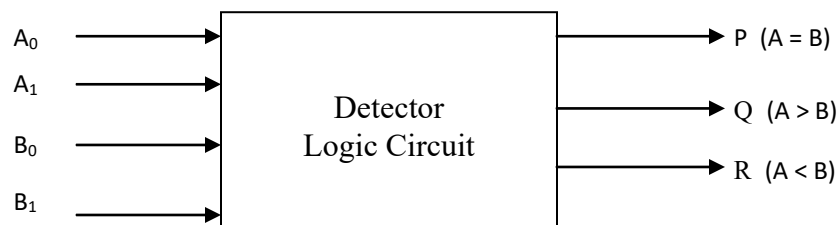

Figure 1.3
3. Figure 1.3 represents a *relative-magnitude detector* that takes two 2-bit binary numbers, and determines the operations as follow: